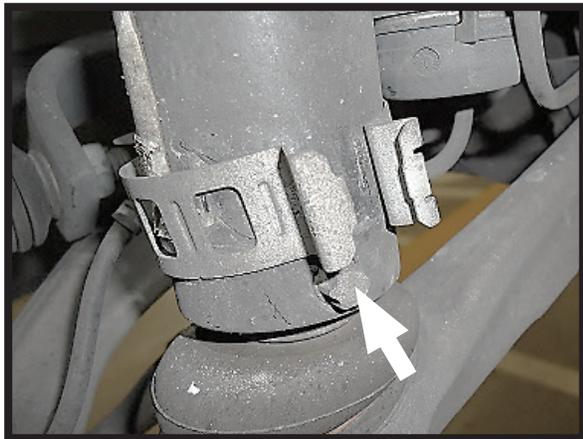

FIGURE 8
6. CUT CABLETIES AND REMOVE BRAKE LINE BRACKET AND BOTTOM CLIP. (FIGURES 8, 9, 10, 11)